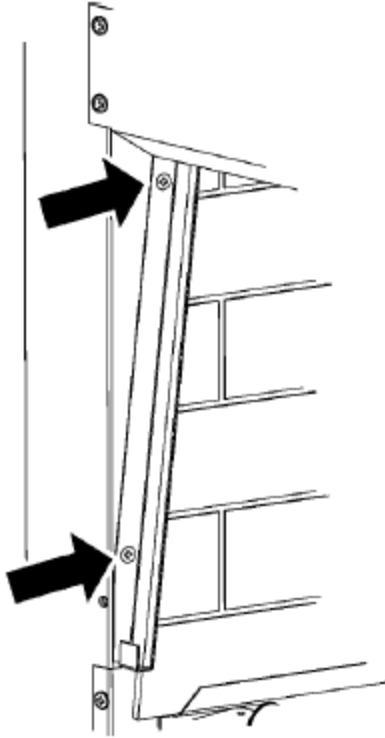

Figure 41. Window seal brackets.
2. Unscrew and remove the two window seal brackets (See figure 41).